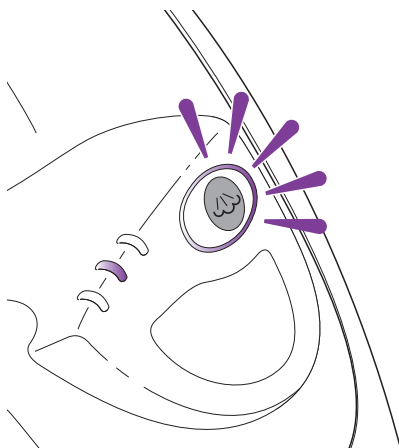

fig. 8
- 2 The **ON/STEAM SETTING** button will flash blue. If the light does not turn on, reference the troubleshooting section on page 20. **(fig. 8)**